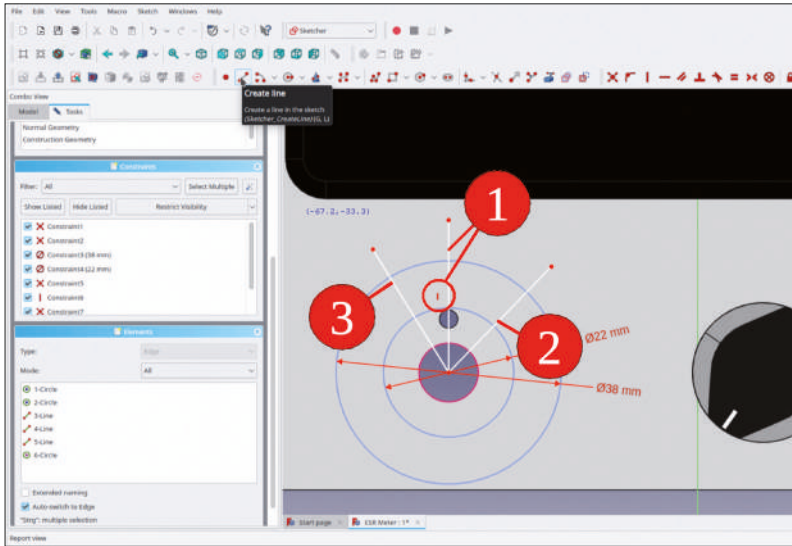

Figure 8-5
9. From the center of the two circles, draw three lines. One must be vertical (to indicate that implicitly selected constraint, a small, red, and vertical bar appears next to the line, Figure 8-5, step 1), when you try to draw it vertically. Take care to attach the lines to the center point. It takes some aiming with the crosshairs, until the center point switches color to yellow (Figure 8-5). If the lines, or even one of them, is not properly attached, there will be some time needed for debugging the sketch later.